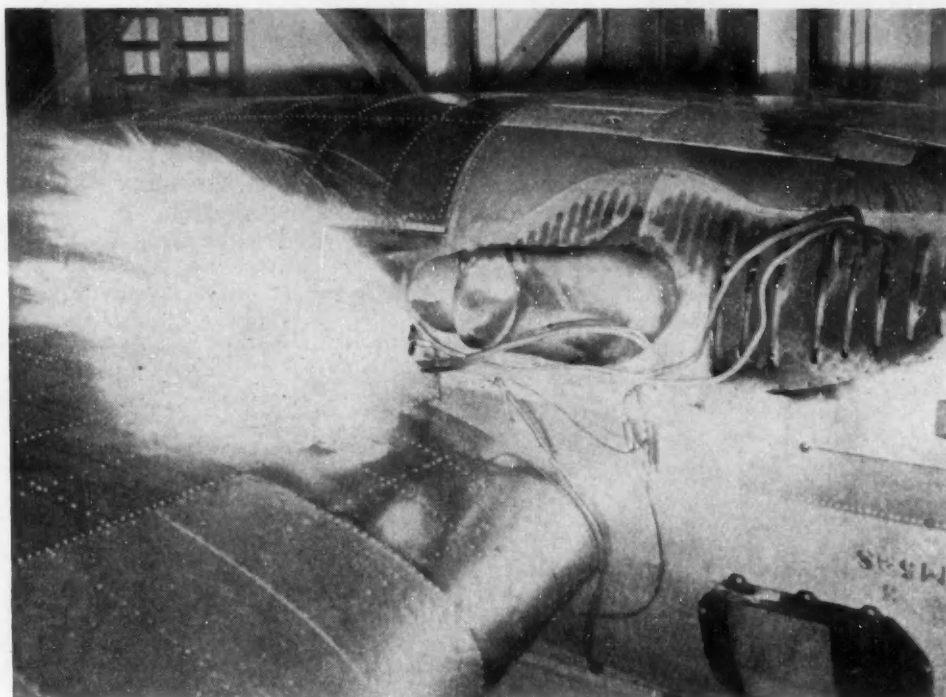

Fig. 1—Fire following spark ignition of standard hydraulic fluid
2. Hydraulic fluids: Tests of several new fluids in a B-29 installation under simulated flight conditions and in a bench test under simulated crash conditions indicated that, with one exception, they are less easily ignited than the standard hydraulic fluid. (See Fig. 1.) Hydrolube proved to be the best fluid of all, since, for all practical purposes, it was not ignitable. Type A fluid of the California Research Corp. is not ignitable under almost all conditions and would be nearly as safe in aircraft as the Hydrolube.